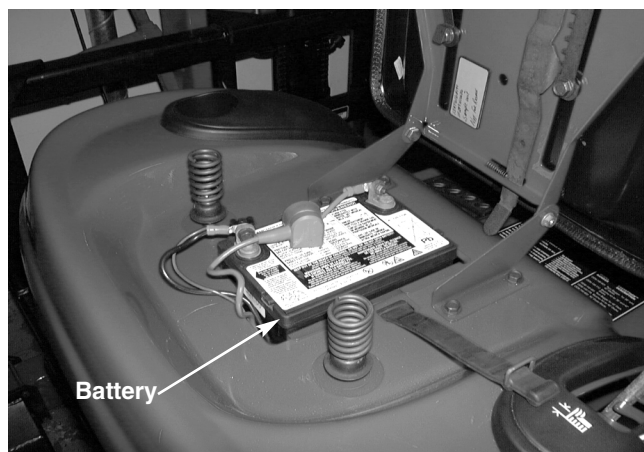

FIGURE 2.
7. Remove the battery and battery tray from the tractor. See figure 2.